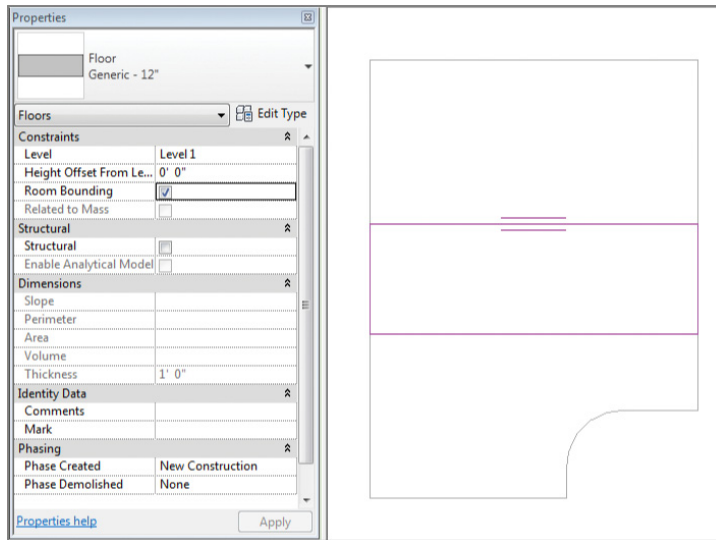

FIGURE 3.5 New floor at Level 1
1. Sketch another floor between the two previous floors, filling the gap between the two (Figure 3.5).